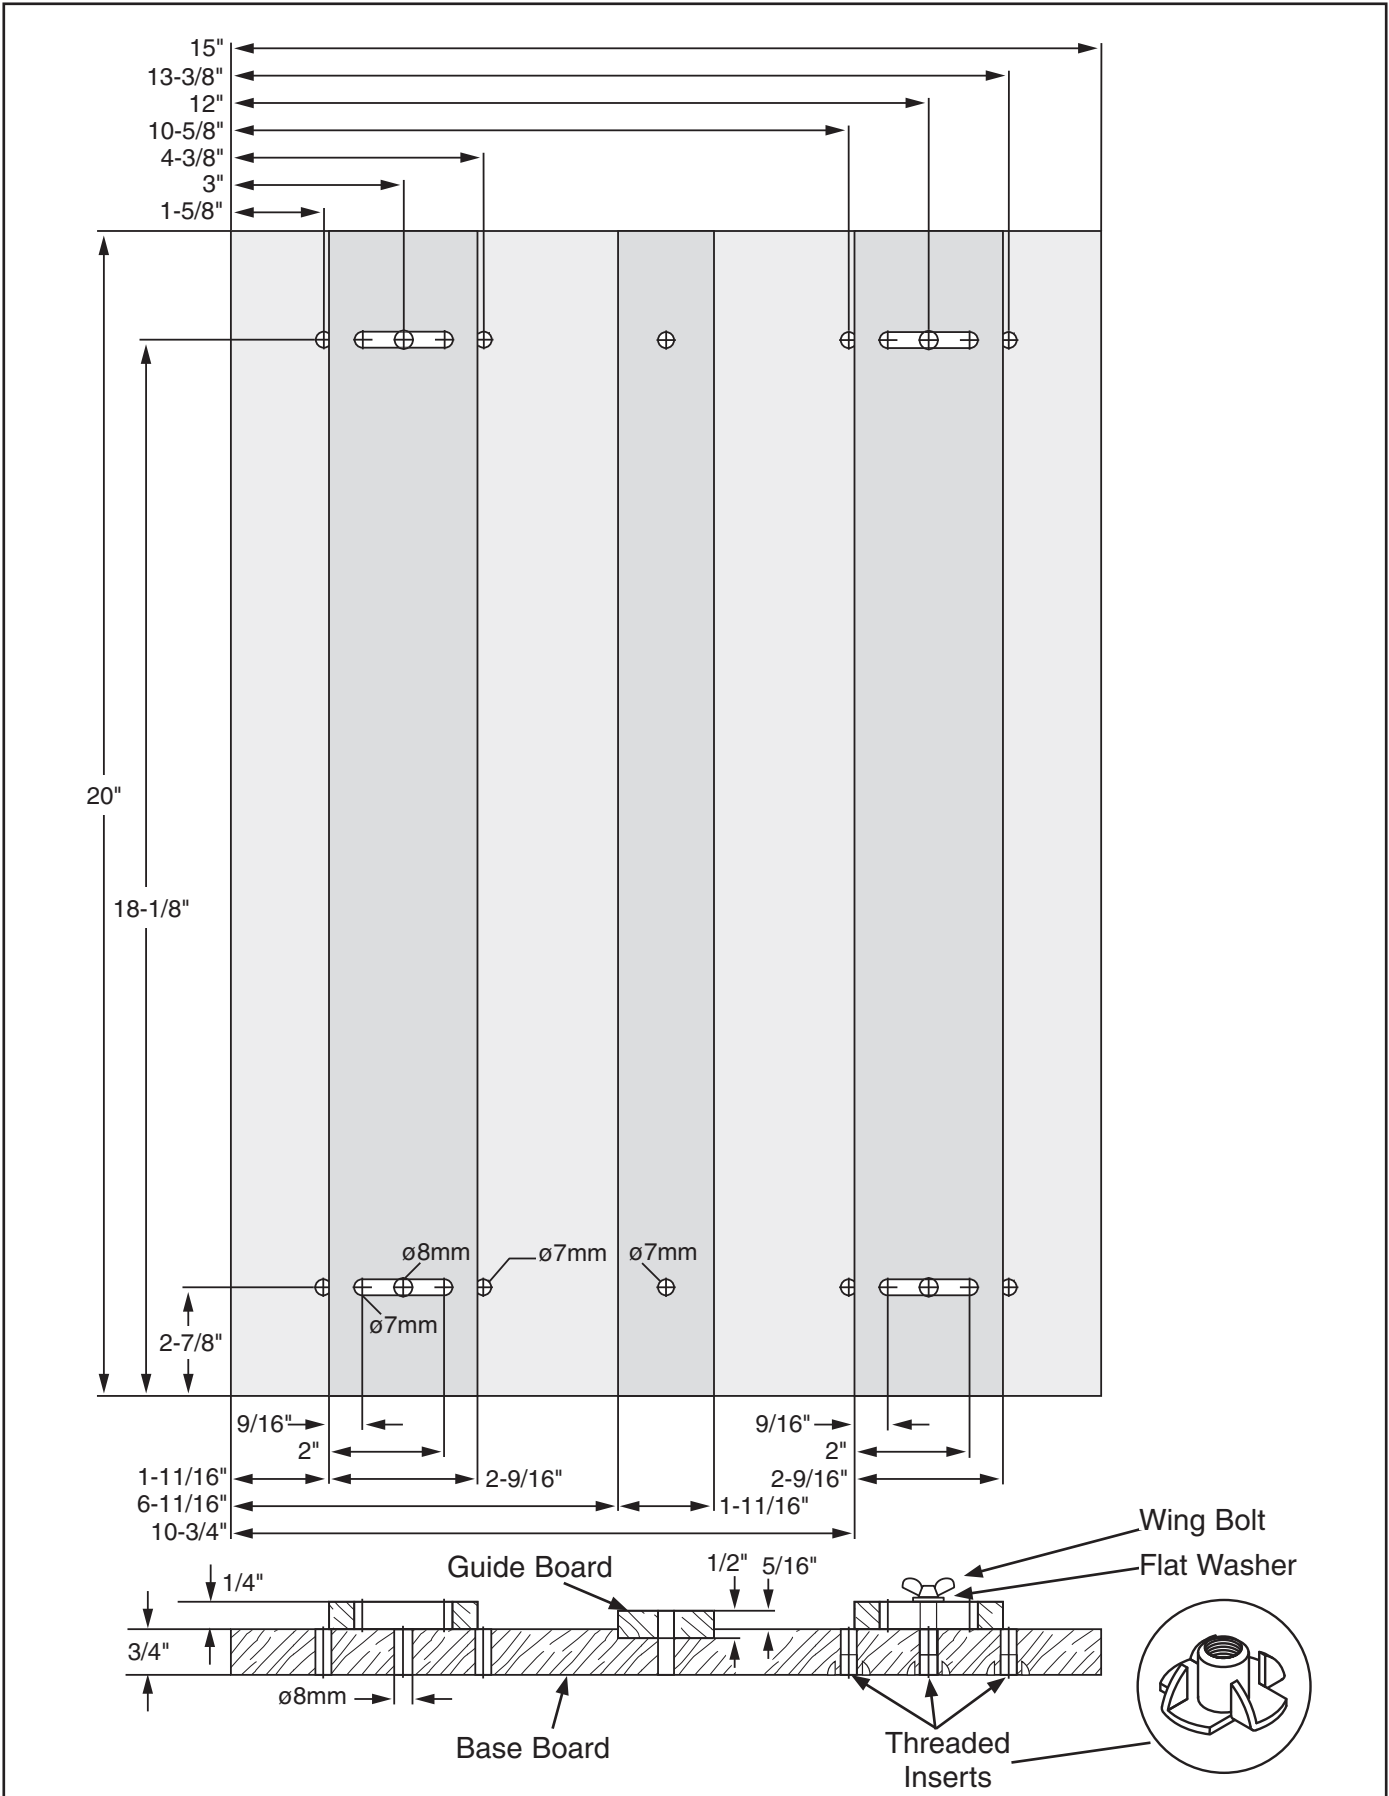

Figure 22. Guide Fence Plan (shown at approx. 30% size).
It is essential that you have a properly adjusted guide fence in place when moulding. **Figure 22** on **Page 23** features a plan for creating your own guide fence. We recommend using softwood or plywood for guide fence construction.
2. Ensure that the threaded inserts indicated in **Figure 22** on **Page 23** are firmly in place.
Certain moulding tasks require the workpiece to be oriented vertically, and thus extra-tall guide boards are needed. Follow the plan shown in **Figure 22** on **Page 23**, but increase the width of the center guide and the guide boards from 1/2" to 1".